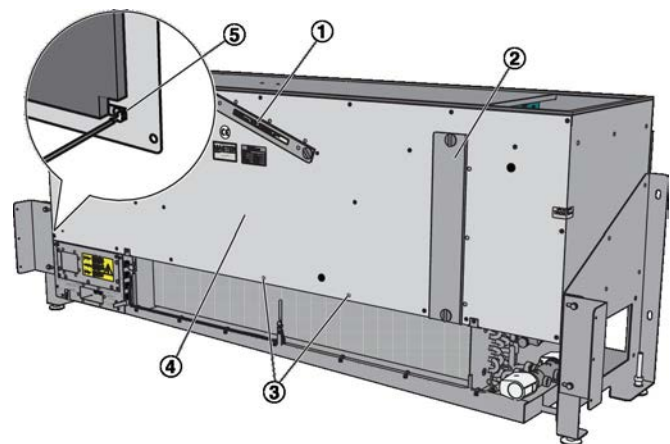

Fig. 23: Removing the cover plate
3. ▶ Remove the coarse dust filter (Fig. 23/1), and remove the cover (Fig. 23/2) from the fine dust filter chamber ↪ on page 29.
4. ▶ Remove the cover plate (Fig. 23/4) by loosening all the Phillips screws (Fig. 23/3) on the plate.
Disconnect the protective conductor (Fig. 23/5) when you remove the plate.